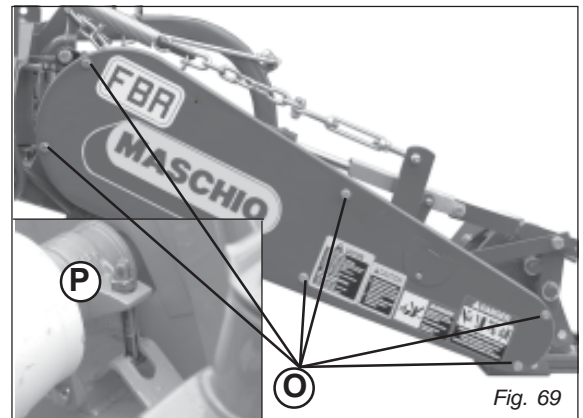

Fig. 69
Replacement of section-holding bar (L, fig. 69)
Replacement of sections (J, fig. 69)
- Rivet a new section with the rivets provided (J, Fig. 69).